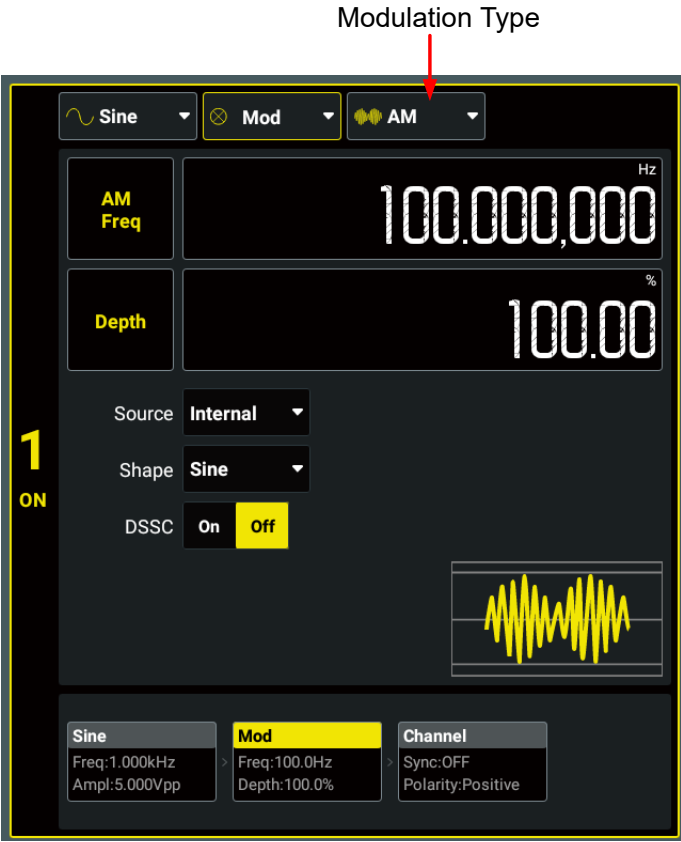

Figure 6.1 Modulation Setting Interface
6.1 Amplitude Modulation (AM)
In Amplitude Modulation (AM), a modulated waveform consists of a carrier waveform and a modulating waveform. The amplitude of the carrier waveform is varied by the instantaneous voltage of the modulating waveform. In the "Modulation Setting Interface" (Figure 6.1), click or tap the "Modulation Type" drop-down button to select "AM" and set its parameters.
6.2 Frequency Modulation (FM)
In Frequency Modulation (FM), a modulated waveform consists of a carrier waveform and a modulating waveform. The frequency of the carrier waveform is varied by the instantaneous voltage of the modulating waveform. In the "Modulation Setting Interface" (*Figure 6.1*), click or tap the "Modulation Type" drop-down button to select "FM" and set its parameters.
Interface" (Figure 6.1), click or tap the "Modulation Type" drop-down button to select "PM" and set its parameters.
With Amplitude Shift Keying (ASK), you can configure the instrument to "shift" its output amplitude between two preset values (called the "carrier amplitude" and the "modulation amplitude"). In the "Modulation Setting Interface" (Figure 6.1), click or tap the "Modulation Type" drop-down button to select "ASK" and set its parameters.